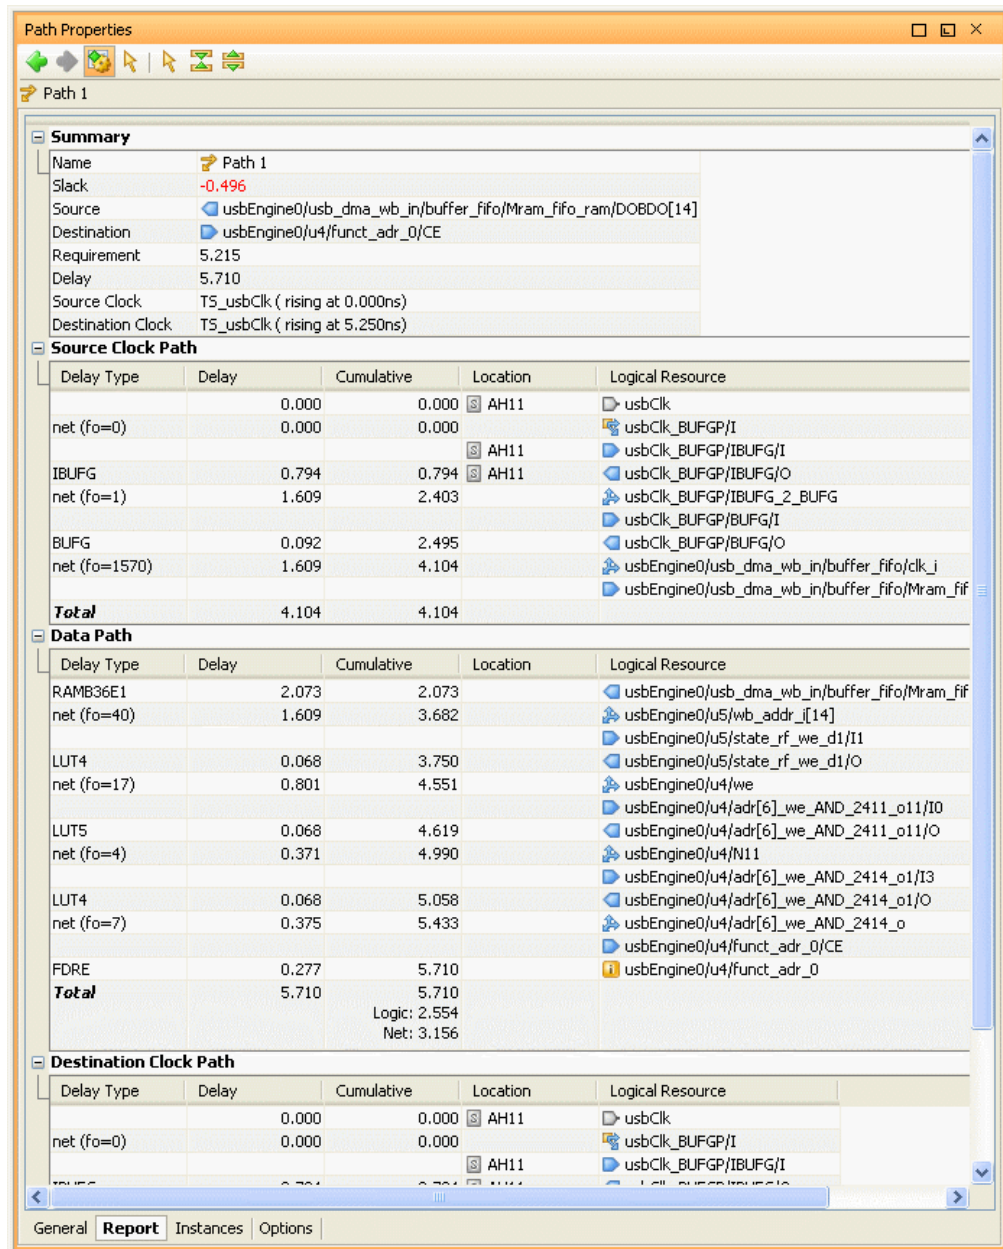

Figure 26: Viewing the Path Properties
- 6-3-4.** Maximize the Path Properties view (Figure 26) using the Maximize button .